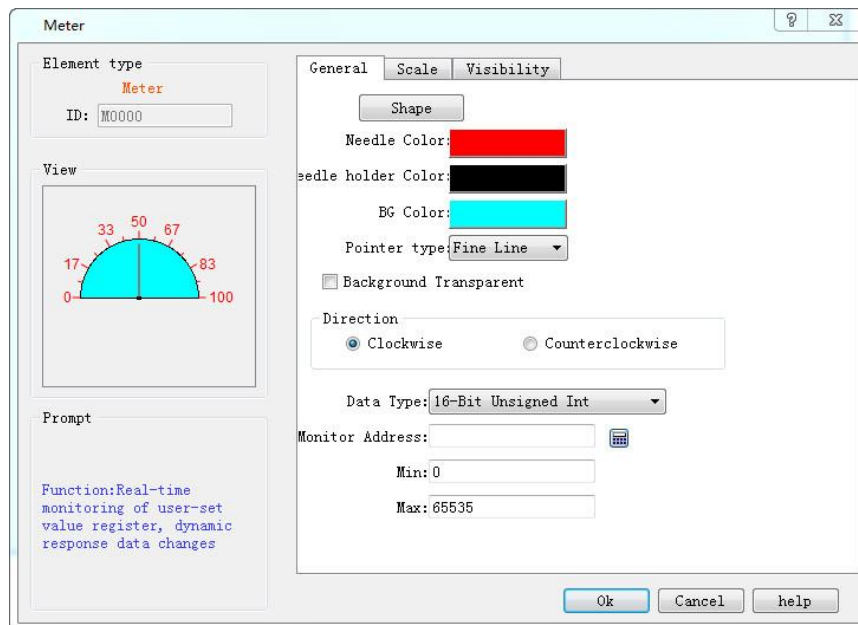

Figure 4-62 Meter dialog
1. Select the Meter control icon  in the toolbar; then the dialog box shown in Figure 4-62 appears: